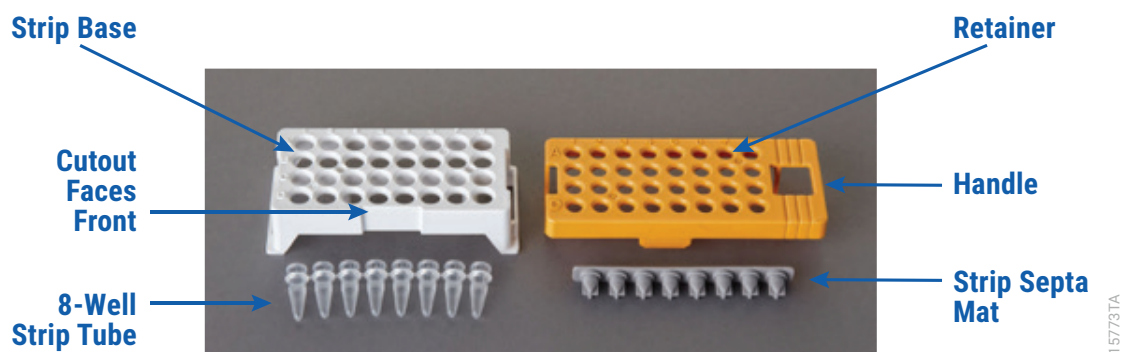
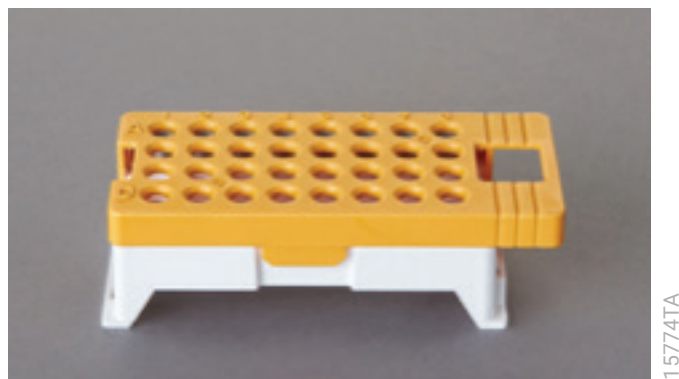

Figure 4. Assembling the Spectrum Compact Strip Base and Retainer.
Figure 5. Assembled Spectrum Compact Sample Cartridge.
Samples prepared in 8-well strip tubes are assembled into the strip base and retainer (Figure 4) to form the sample cartridge (Figure 5) which can be loaded onto the Spectrum Compact CE System. Samples are injected in groups of four, such that one 8-well strip tube can be used for two injections. Each 8-well strip tube corresponds to one lane (A, B, C or D) of the sample cartridge. Samples are injected in groups of four across a lane (not by column). For example, samples in well positions A1 through A4 are injected together, followed by samples in well positions A5 through A8 for the second injection. This pattern is then repeated for samples in lanes B, C and D. Refer to the *Spectrum Compact CE System Operating Manual #TMD058* for information on changing the order of injections during run setup.
1. Place the 8-well strip tube(s) with the Strip Septa Mat, 8-well, into the strip base (Figure 4). When using fewer than 4 strips in the run, you can place the strips in any lane.
2. To complete the assembly, place the retainer over the strip(s) in the strip base, aligning the lane names A to D and well numbers 1 to 8 on the retainer to those on the strip base and pressing until the retainer clicks into the strip base (Figure 5).